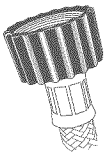

Fig.3 Faucet end of hose
- 1 Install hoses with the straight end (with filters) fitted to the faucets (refer to Fig.3).